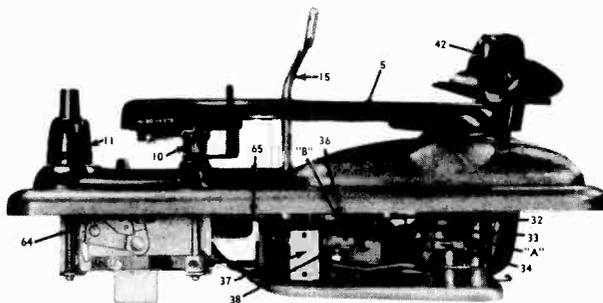

Fig. 1
At the completion of the change cycle, the Actuating Pawl is disengaged from the Main Cam Assembly Actuating Gear (36) by the hook end of the Velocity Trip and Roller Assembly (37) which has been returned to its normal position by the reset points on the Main Cam Drive Gear (Fig. 3). This hook should be adjusted for about $\frac{1}{64}$ " clearance from the bottom of the Main Cam Drive Gear (36), Fig. 1. Greater clearance may permit the pawl to bounce past the hook and re-engage, causing the mechanism to continue to cycle.
Be sure the set screws (A of Fig. 1) of the pickup arm raising disc are not loose and are properly positioned in the alignment holes as explained in the paragraph on Needle Setdown Indexing.
2. Set the Record Selector Post (42) to the 10" position.
4. Be sure the notch in the Pickup Arm Raising Disc (34) engages the Pickup Arm Raising Lever (40).
5. With a No. 8 Bristol wrench in each of the set screws of the Pickup Arm Raising Disc (35) as indicated in A, Fig. 1, alternately loosen one screw and tighten the other until the needle rests above the record lead-in groove at the desired point.
6. Complete the change cycle of the mechanism and position the Pickup Arm on the rest button (10). If necessary, bend the tongue of the Pickup Arm Raising Disc closer to or away from the Base Plate Post until the Pickup Arm is correctly seated on the rest button when the tongue is touching the Base Plate Post.